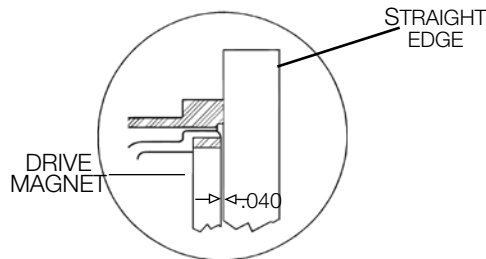
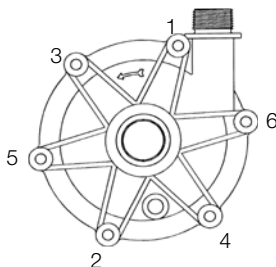

Figure 2
Figure 3
2. Remove screws and washers (items 9A, 9B & 9C) from impeller housing (item 1) and remove pump assembly from motor adapter (item 5).
4. Install the motor adapter (item 5) onto the motor with the access holes top and bottom. Secure with supplied hardware (items 10A, 10B, and 10C). On 63 frame pumps, from the motor side, insert the supplied gray spacer into the base of the motor adapter and secure both to the motor.
- For 63 frame pumps - Screw the cone point drive magnet assembly setscrew (item 6B) in so that it protrudes slightly into the drive bore. Align the protruding setscrew point with the key slot on the shaft adapter and slide the drive magnet assembly (item 6) on. Adjust the drive magnet assembly (item 6) so that it is 1.016 mm (.040 +/- .005) below the face of the motor adapter (see figure 2) and tighten both setscrews with a 5/32" Allen wrench to 7.9 N.m (70 in. lbs.).
For 71 and 80 frame - Align the cone point set screw (item 6B) on the motor shaft and slide the drive magnet assembly (item 6) onto the motor shaft. Adjust the drive so that it is 1.016 mm (.040 + or -.005) below the face of the motor adapter (see figure 2). Tighten both setscrews with a 5/32" Allen wrench to 7.9 N-m (70 in-lbs.).
- Place the impeller assembly (comprised of items 2 and 3) in barrier (item 4). Grasping the barrier at opposite bolt tabs, carefully lower the barrier assembly into the motor adapter/drive assembly. Line up the tabs of the barrier between the tabs on the motor adapter to avoid pinching fingers. Once seated, rotate the barrier until bolt holes line up.
- Install the o-ring (item 7) on the barrier. Lubricate the o-ring with a compatible lubricant to facilitate installation.
- Place the impeller housing (item 1) on the barrier being careful not to dislodge the o-ring.
- Align mounting holes and install 6 mounting screws and washers (items 9A, 9B & 9C) from hardware package. Hand tighten screws using pattern shown in Figure 3.
1. 56C pumps - Insert the barrier (item 4) into the motor adapter (item 5). Align the barrier tabs with the motor adapter bolt holes and press/pop into place. Install the impeller assembly (items 2 and 3) into the barrier. Lubricate the housing o-ring (item 7) with a chemically compatible lubricant and install. Carefully place the impeller housing (item 1) onto the barrier, lining up the discharge with a set screw access hole (top) in the motor adapter. Be careful not to dislodge the o-ring. Install the six bolts and washers (items 9A, 9B, and 9C) and hand tighten the screws following the pattern shown in figure 3.